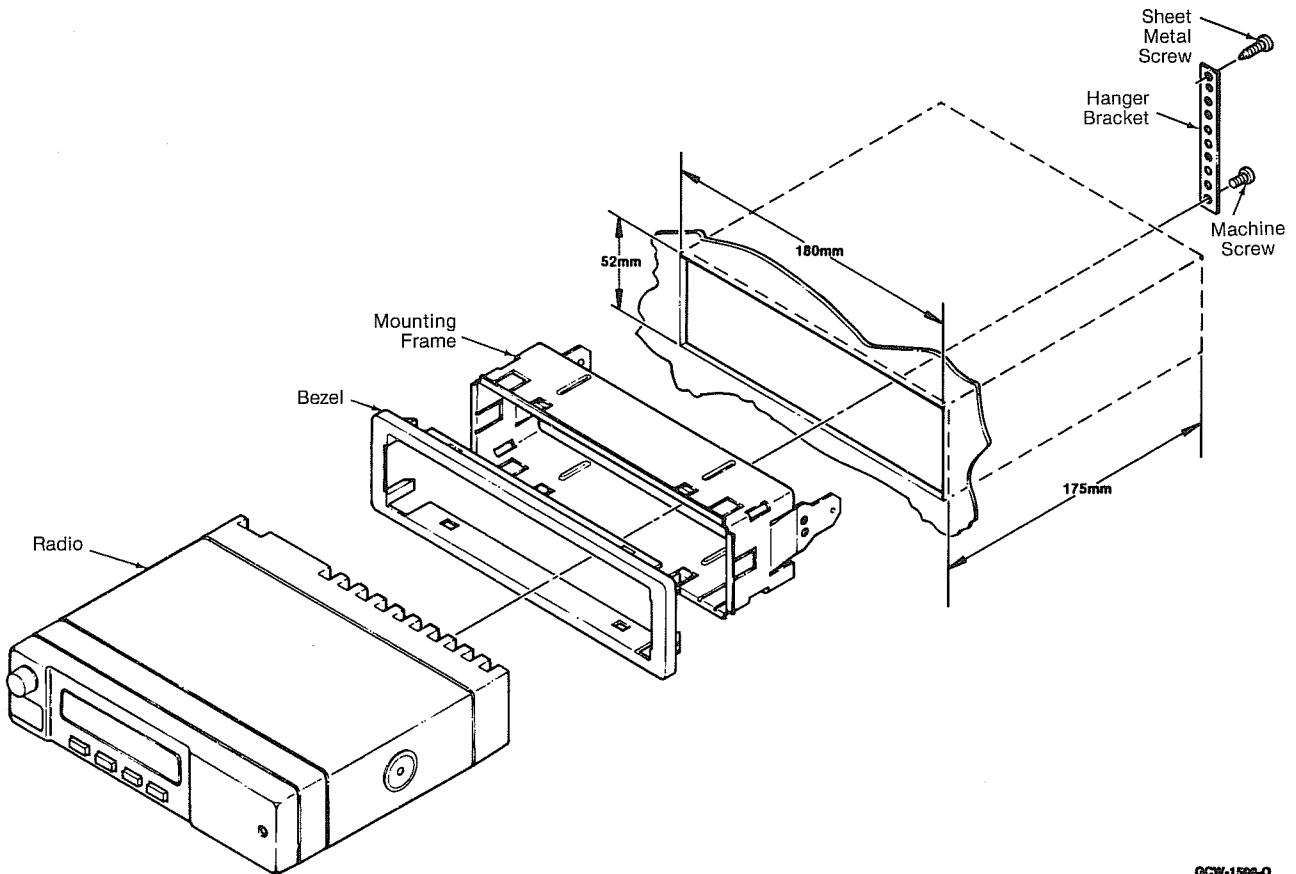
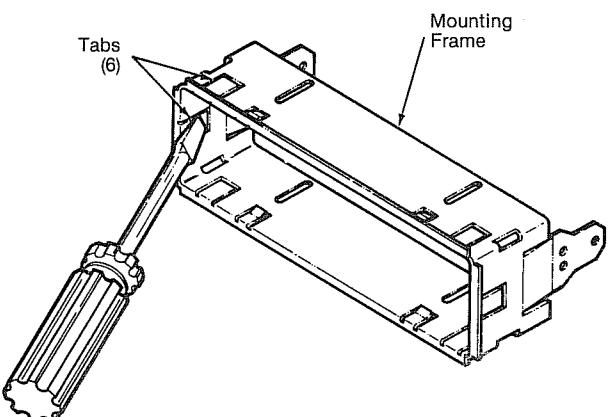

Figure 1
Figure 2
(1) Open the radio cutout in the dashboard, and enlarge it, if necessary, to the dimensions shown in Figure 1.
(2) Insert the mounting frame into the cutout and bend the six tabs (Figure 2) to hold it in place. Press the bezel onto the mounting frame.
(3) Slide the radio into the mounting frame until it snaps firmly into place.
(4) Attach the hanger bracket (Figure 1) to the structure of the vehicle with a sheet-metal screw, and to the back of the radio's heat sink with a machine screw.
- (3) Insert the mounting frame into the cutout (Figure 3) and bend the six tabs to hold it there (Figure 2). Press the bezel onto the mounting frame.
- (4) Slide the control head into the mounting frame until it snaps firmly into place.